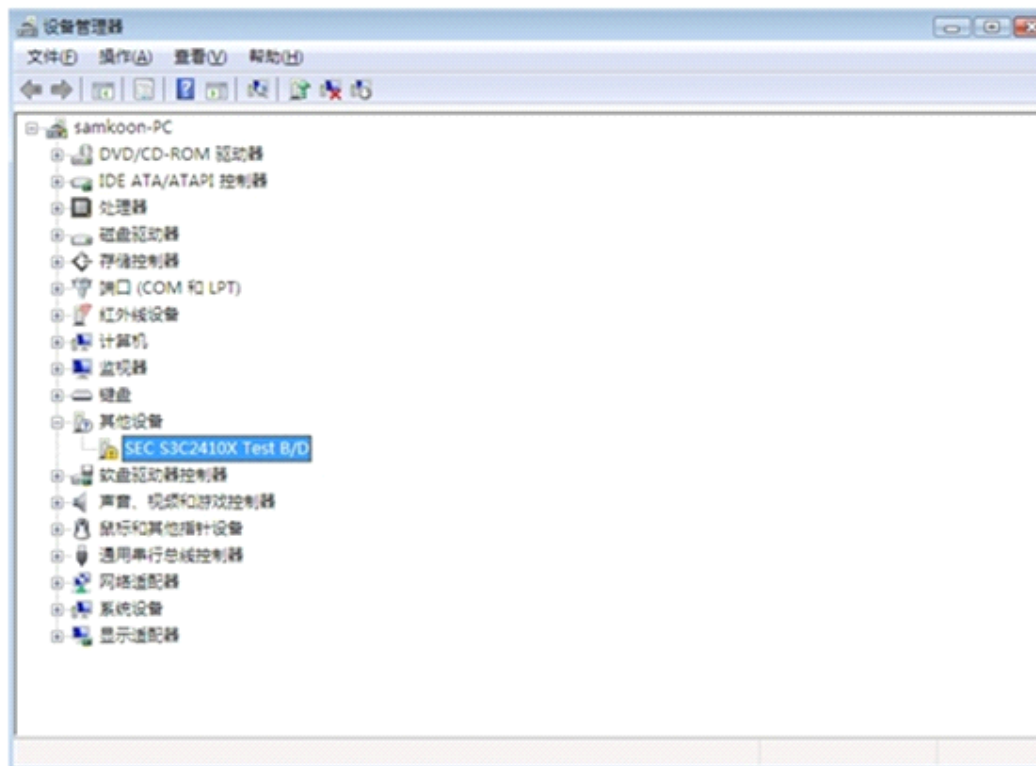

Figure 2-18: Device manager page of VISTA
- Select "Ask me later", and then open the device manager to find the touch screen equipment. Right click on the equipment, and choose to update the driver. See Figure 2-18.